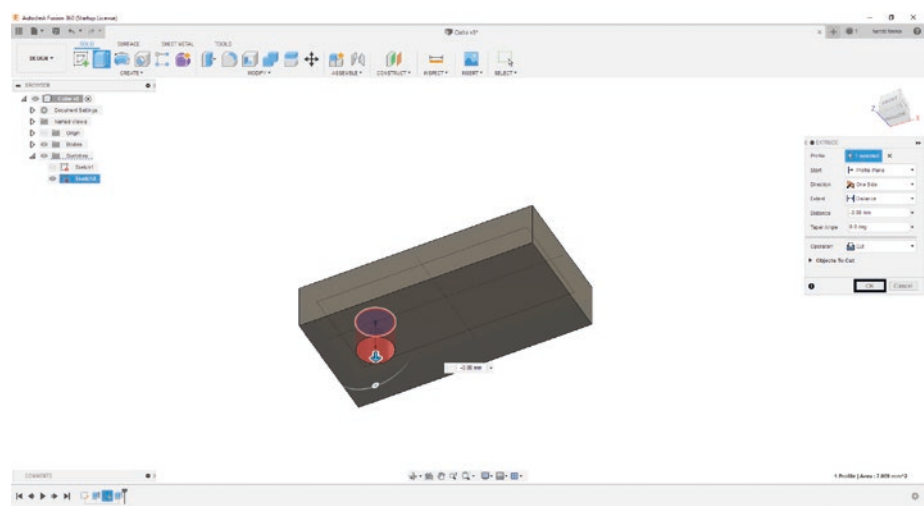

Figure 3-72. *Extrude the circle to the bottom face*
27. Next, select the circle and click the Extrude button. This will be a bit different as you are going to create a hole. Rotate the 3D object so you can see the bottom of the 3D object and left-click the bottom of the 3D object and click OK; this will create a hole that is 3mm in diameter. Press “Enter” when you are finished. See Figure 3-72.